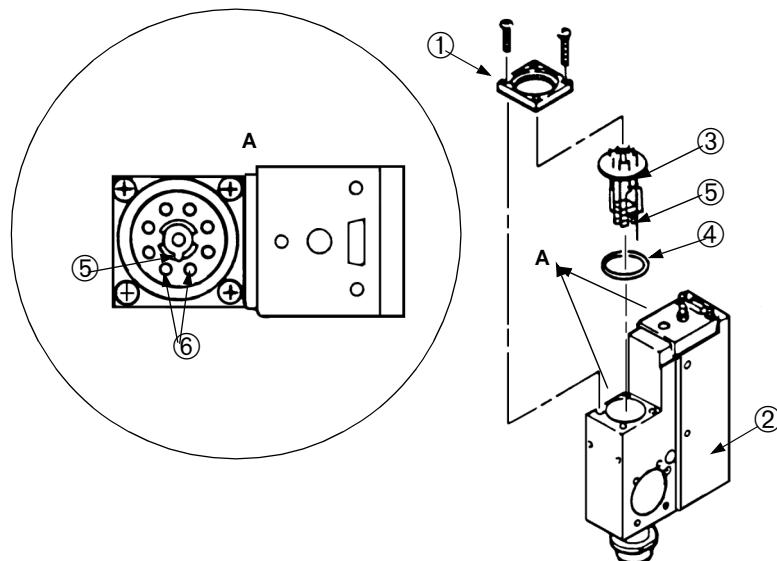

Figure B-5 Ion Source Replacement
If the ion source needs replacement (Figure B-5), replace it during spectrometer tube cleaning. Adjustment is required after replacement is complete. Refer to “Calibration and Sensitivity Checks” on page 3-11 for the adjustment procedures.
2. Remove the four Phillips head screws that hold the flange cap ① onto the body of the spectrometer tube ② (Figure B-5).
3. Firmly but gently separate the flange cap from the ion source ③.
13. Wipe the new O-ring ④ and mating surfaces with a clean, lint-free cloth and place the new ion source in its cavity:
- Place the locating pin ⑤ so that it falls in the center of the guide hole.
- Ensure that pins 1 and 8 ⑥ are parallel to the sidewall of the spectrometer tube as shown in Figure B-5 on page B-6, View A.